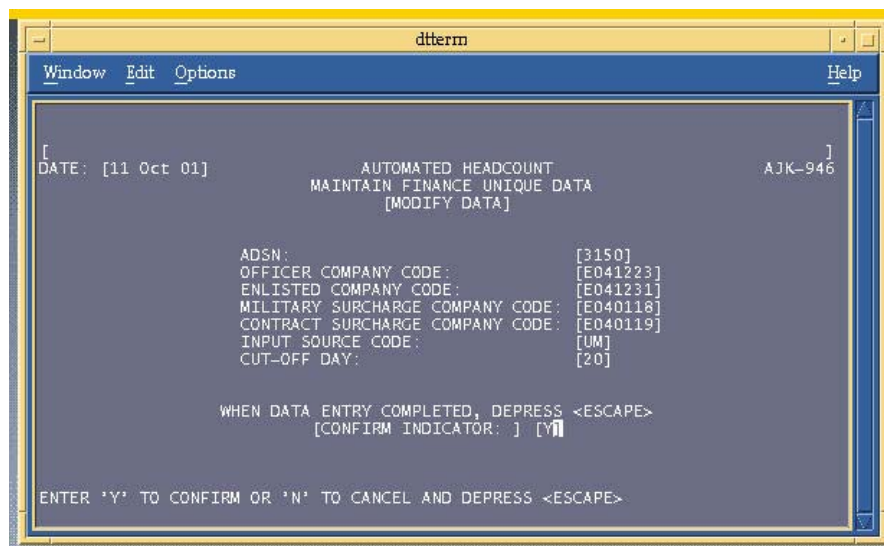

Figure 8.5-16 Maintain Finance Unique Data AJK946
2. Press the “Esc” key and figure 8.5-16 will appear.